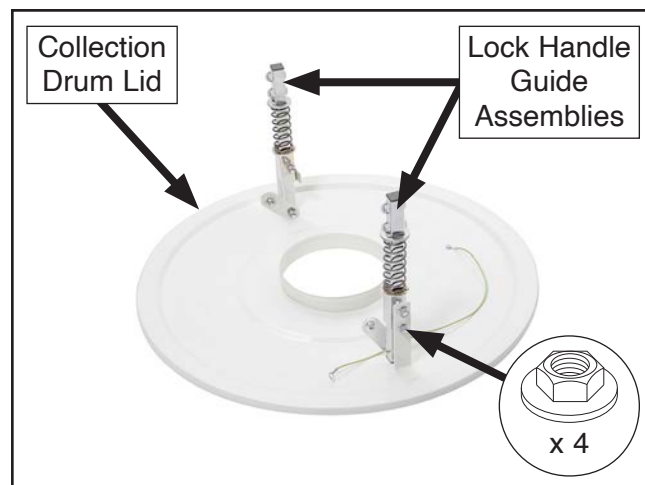

Figure 21. Lock handle guide assemblies installed on collection drum lid.
13. Install (2) lock handle guide assemblies to collection drum lid using (4) $\frac{5}{16}$ "-18 flange nuts, as shown in **Figure 21**.